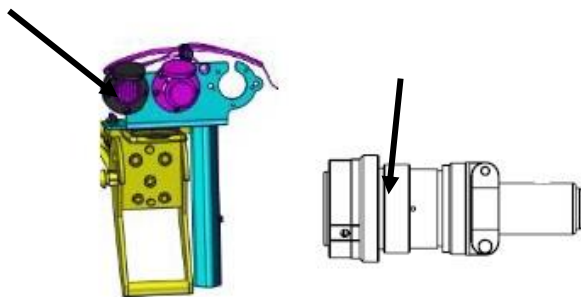

Figure 125
9. **Note: Either a control box or the HHC Jumper connection must be attached to the Display harness. Figure 125**